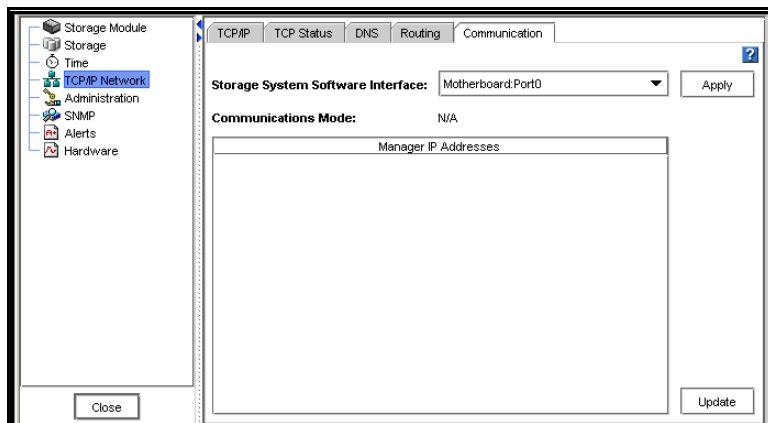

Figure 60. Verifying Interface Used for Storage System Software Communication
1. Select the Communication tab, shown in Figure 60.